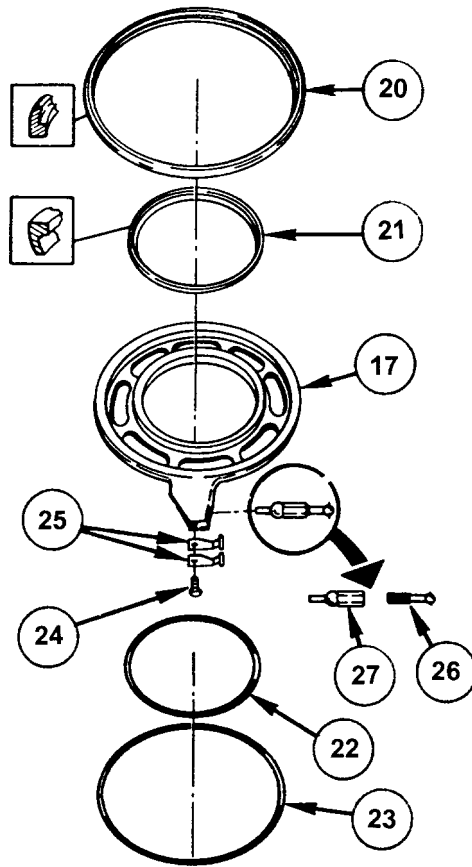

Figure 116 Left Brake Components.
Be sure to install seals (20, 21) so that seal lips are in direction shown in Figure 116. If seals are not installed correctly, components will not function correctly.
22. Hold two spring tension clips (25) in place on brake cam (17) in position shown in Figure 116.
23. Install bolt (24) to retain clips (25).
24. Torque bolt (24) to 108-132 lb-in (12-15 N·m).
25. Assemble inner brake adjusting link (26) and outer brake adjusting link (27) so that threads on inner link (26) cannot be seen.
26. Install slotted end of outer link (27) into brake cam (17) so that flat on link (27) is against free ends of spring tension clips (25).